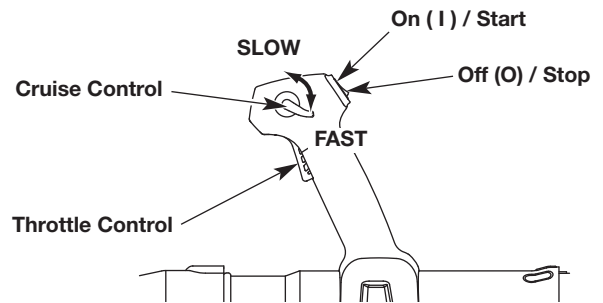

Fig. 7
**NOTE:** There is no need to turn the unit on. The On/Off switch is in the ON (I) position at all times (Fig. 7).
5. Move the cruise control to the FAST position (Fig. 7).
2. Press and hold the On/Off switch in the OFF (O) position until the engine comes to a complete stop (Fig. 7).
- Use the cruise control to make continuous operation easier (Fig. 7).